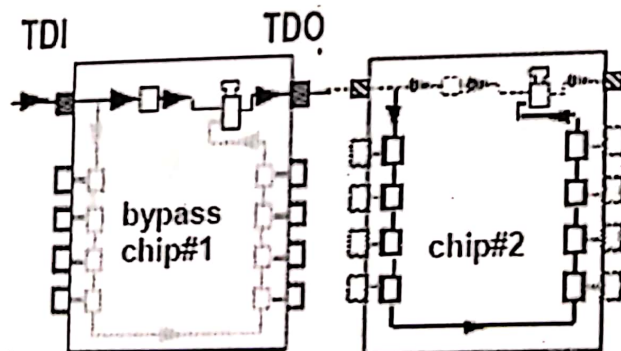

Figure 5
- Consider testing the logic inside chip 2 while bypassing chip 1 (Figure 5). What is the TMS and TDI sequences you would use to load the instruction into the Instruction register? Explain why you are using that sequence. Assume that the INTEST instruction is a sequence of 1010 and the BYPASS instruction is a sequence of all ones. Also assume that chip1 has a 3 bit Instruction Register (IR) and chip2 has a 4 bit IR. Remember to initialize the TAPS controller before loading in the instruction.